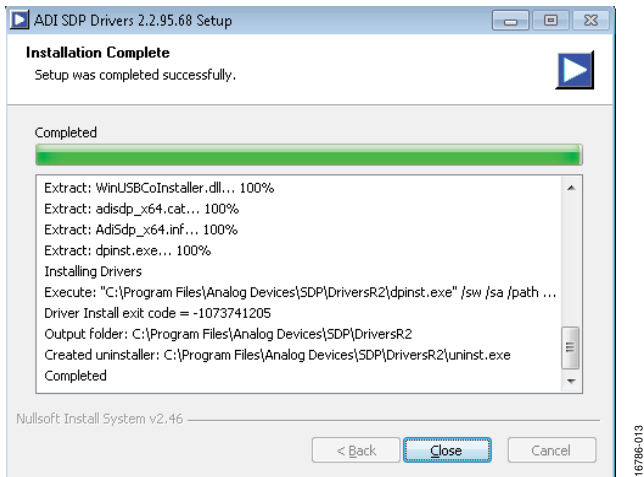

Figure 13. ADI SDP Drivers Installation Complete
- When the progress bar is completed, click **C**lose to finish the installation (see Figure 13).